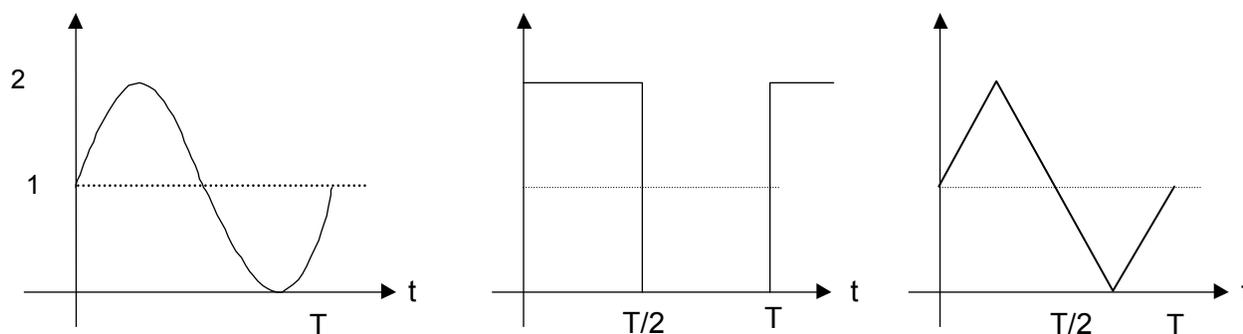

Figure.2
- Adjust the D.C. offset of the signal generator, so that the signals start from zero and reach a peak value of 1 V as shown in Figure.2.